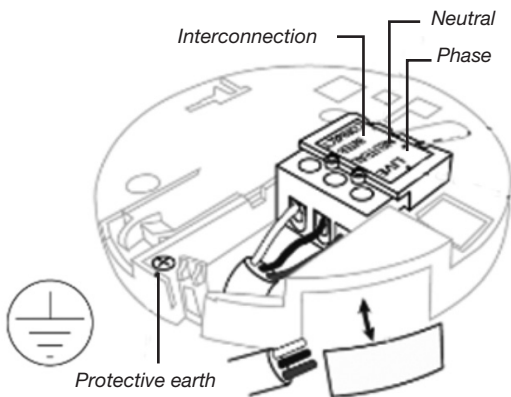

Figure 5
- Protective earth does not need to be connected to the smoke alarm, the yellow/green wire is connected to support terminal marked with earth symbol for relay. See Figures 5 & 6.